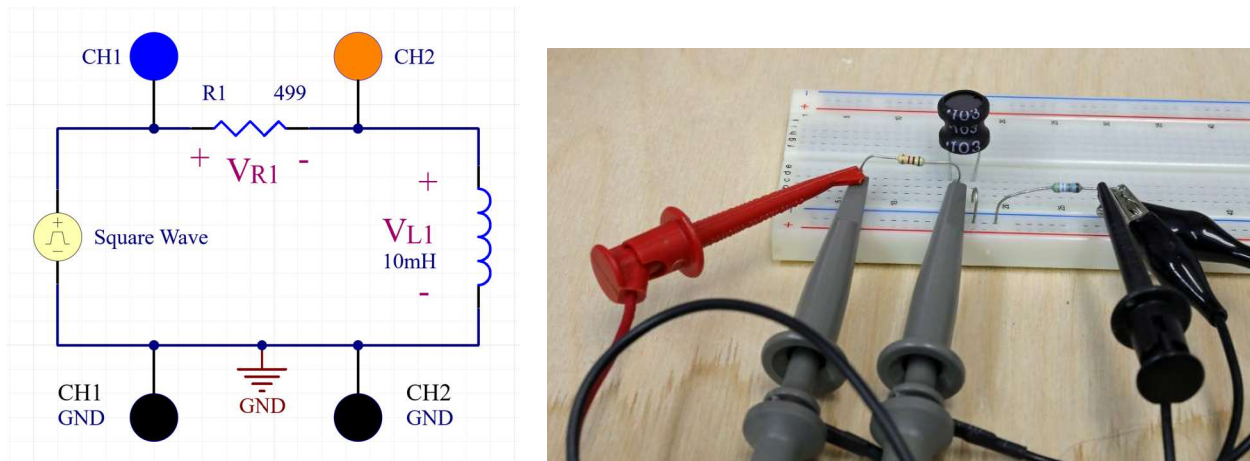

Figure 8: LC circuit with breadboard example.
8. You will measure the charging of an inductor to determine $\tau_{ChargeRL}$: Build the circuit shown in figure 8. R1 is 499 Ω or 510 Ω for a 10mH inductor. However, before you build this circuit measure the resistance of the inductor. R_L = 26.3 Ω and the resistance of R1 = 499 Ω . The internal resistance of the inductor, R_L , will affect the RC measurement. What percentage is R_L compared to R1? 5.29%. This R_L will increase the time constant R_L . Since the R_L can't be removed we